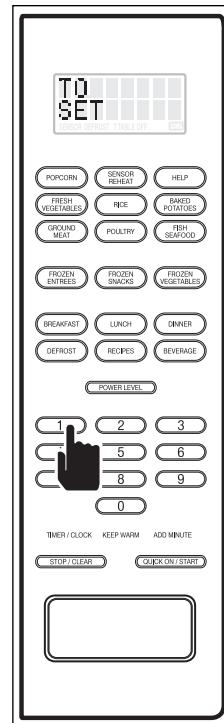

Figure 3-68.
2. Press the number key that correlates with the help feature desired and follow the instructions shown on the display. For this example, "child lock" was chosen by pressing the number 1 key and "TO SET - CHILD LOCK - PRESS START" flashes on the display (See Figure 3-68).